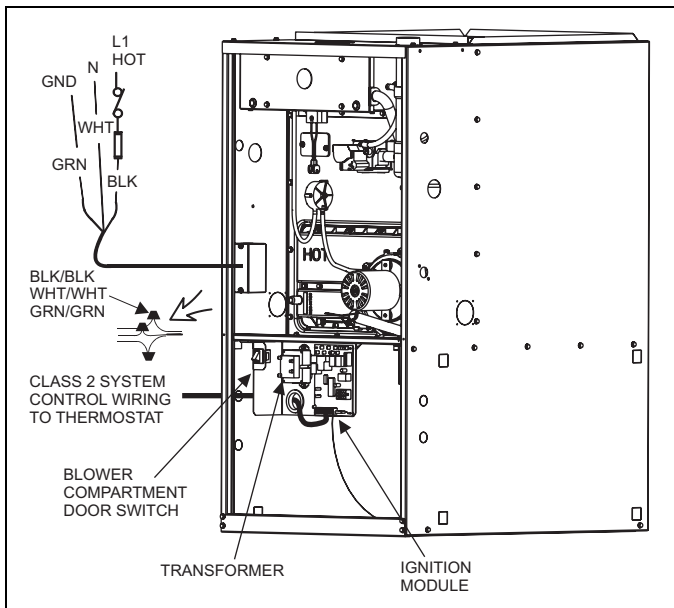

FIGURE 5: Electrical Wiring
2. Remove the screws retaining the wiring box cover. Route the power wiring through the opening in the unit into the junction box with a conduit connector or other proper connection. In the junction box there will be three wires, a Black Wire, a White Wire and a Green Wire. Connect the power supply as shown on the unit-wiring label on the inside of the blower compartment door or the wiring schematic in this section. The black furnace lead must be connected to the L1 (hot) wire from the power supply. The white furnace lead must be connected to neutral. Connect the green furnace lead (equipment ground) to the power supply ground. An alternate wiring method is to use a field provided 2" (51 mm) x 4" (102 mm) box and cover on the outside of the furnace. Route the furnace leads into the box using a protective bushing where the wires pass through the furnace panel. After making the wiring connections replace the wiring box cover and screws. A power shutoff switch may be installed in this box. Refer to Figure 5.